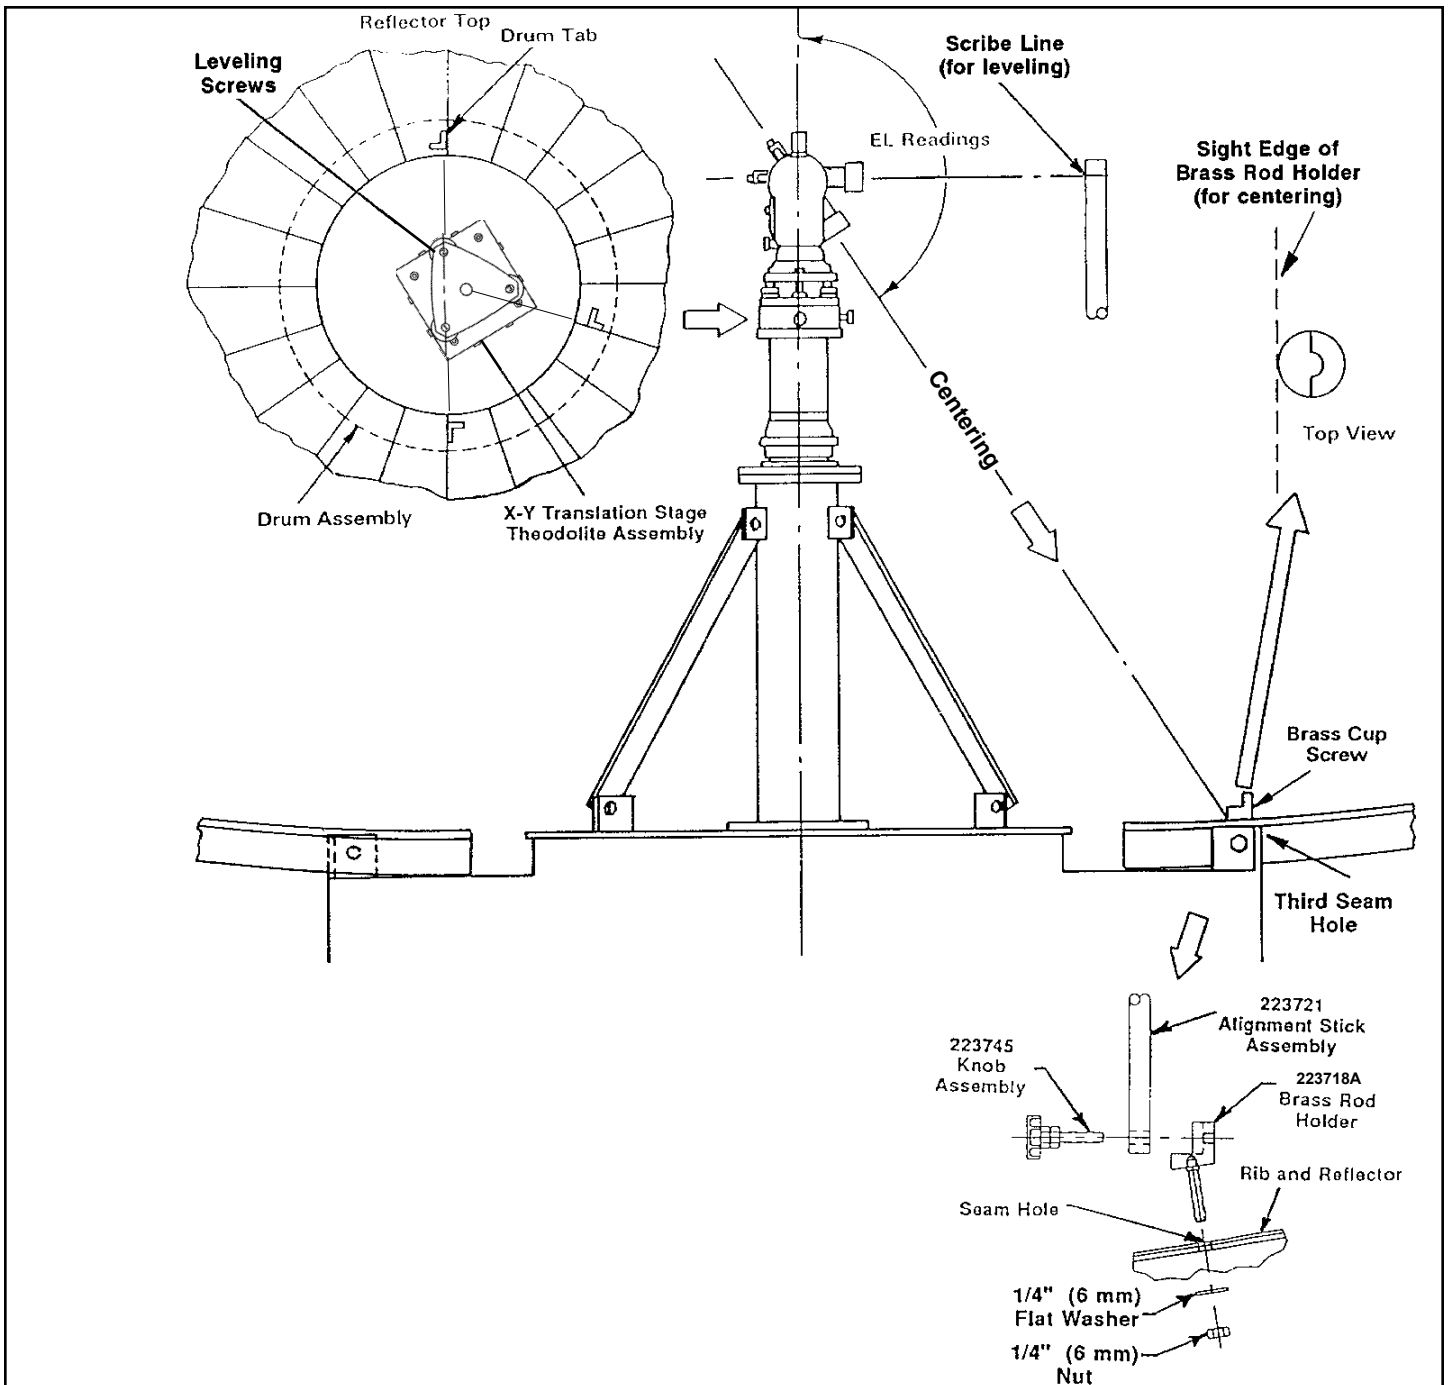

Figure 38
Refer to Figure 38. Assemble 3 brass rod holders as shown. The brass rod holders used for calibration of the theodolite to the reflector and subsequent alignment of the reflector, must be installed in the third seam holes at the panel seams shown.
Step 4 Refer to Figures 38 and 39. With the height of the theodolite and its support kit set as indicated in Figure 24, the theodolite should sight near the scribe line of the alignment stick when theodolite elevation is set to $90^{\circ} 00' 00''$. If not, set the theodolite elevation angle to 90° and move the theodolite up or down until it sights on the scribe line using the rotary precision lift. Be careful not to turn entire torque tube while turning precision lift.
- Step 1** Refer to Figures 38 and 39. Centering of the theodolite is performed using the X-Y translation stage. This device has 2 sets of micrometer adjustments and 2 sets of long locking adjustment screws which are opposed at 90°.
- Step 3** Refer to Figure 38. Centering is performed by focusing the theodolite on the intersection of the brass rod holder and the reflector skin.